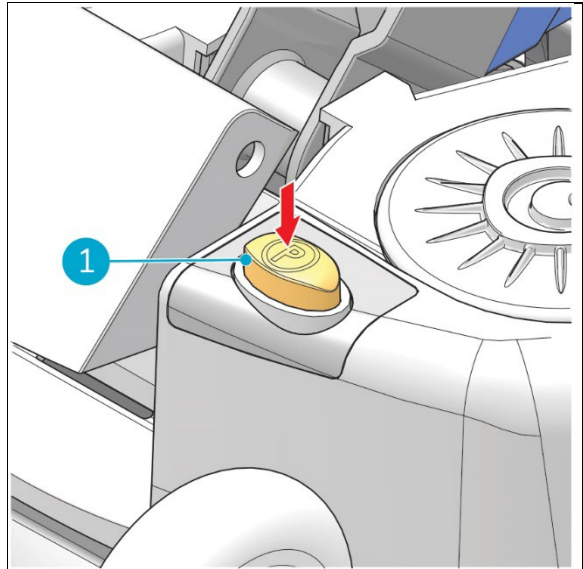

Figure 25
1. Push the stop and go button (Figure 25, pos 1).